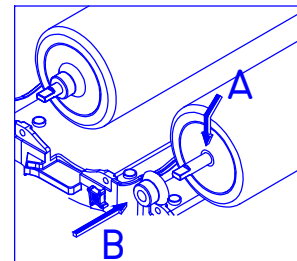

Fig. 19
Lubricate the surface of the cylinder in the zone of the transmission shaft outlet as shown by the arrow (A). (Fig. 19) Place the spiral blade basket lubricating both the internal and external part. (see arrow B - Fig. 19)